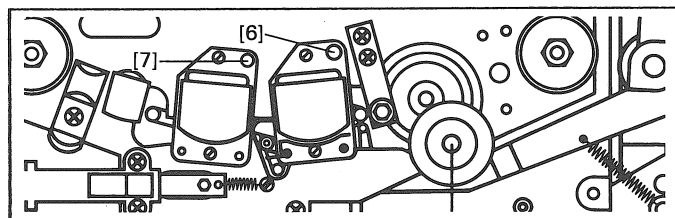

Fig. 10
- With the adjusting screw [6] (Fig. 10) on the reproduce head, adjust the phase to maximum voltage.
- With the adjusting screw [7] of the record head (Fig. 10), adjust to maximum voltage reading on